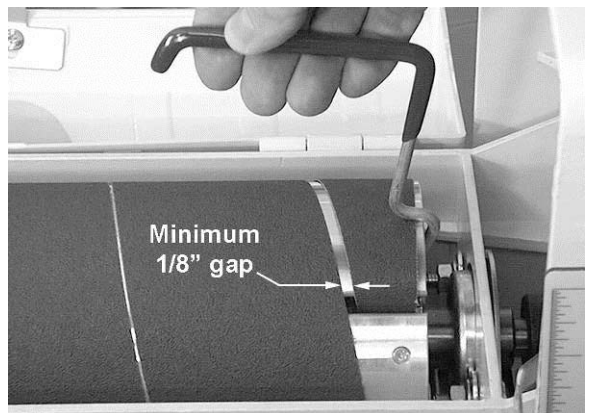

Figure 13
10. Turn the TUFTool counterclockwise and lower it onto the abrasive strip, making sure it is holding the paper tight (Figure 13).
IMPORTANT: Leave a gap – at least 1/8" – between the tapered strip and the closed end of the slot (Figure 13) to allow strip to be pulled into the fastener as needed. If necessary, trim the outside edge of the abrasive strip.